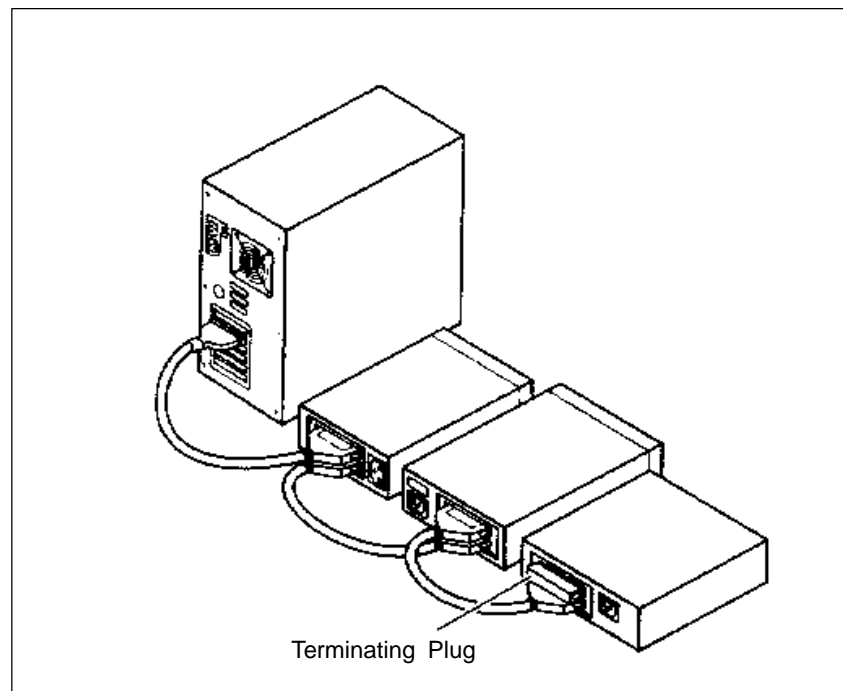

Figure 7-4 External Termination
Read the device's documentation to determine how to enable or disable termination on your particular SCSI device(s). On most internal SCSI devices the termination setting is controlled by a jumper or a switch. On other internal SCSI devices you must physically remove or install resistor module(s). On most external SCSI devices, a terminating plug (a resistor pack embedded in a small plug) is installed or removed to control termination (see Figure 7-4).
4. To connect other external SCSI devices, daisy-chain each device to the previous device until all external SCSI devices have been connected (see Figure 7-4).